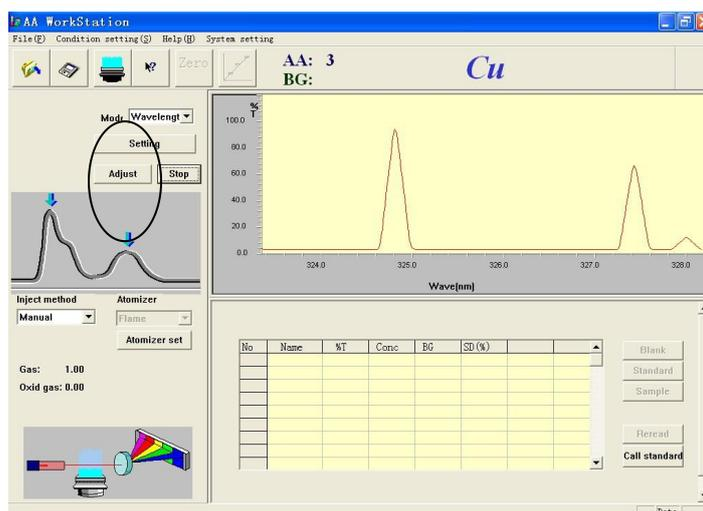
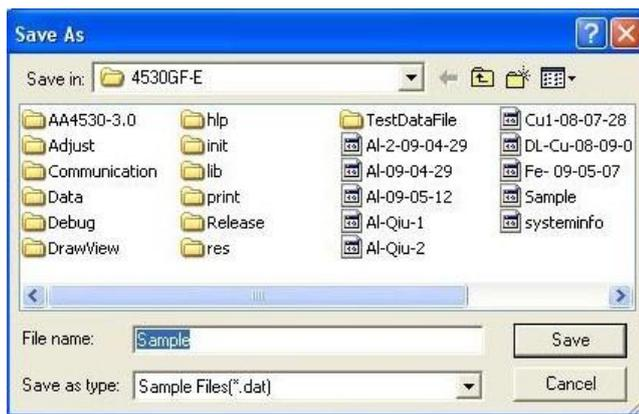
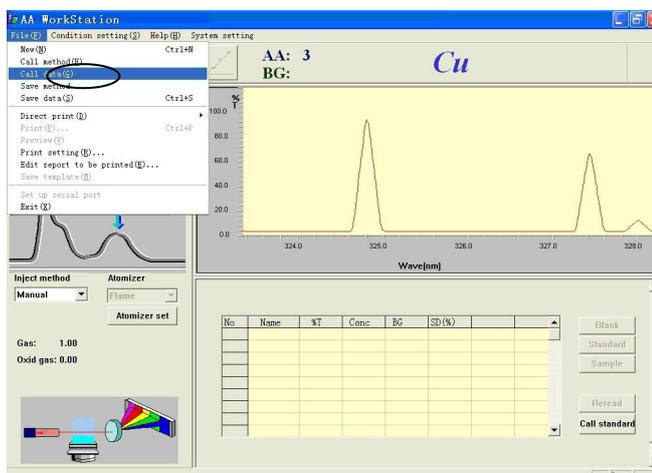

Figure 9-10
Figure 9-11
Figure 9-12
- a) Press the "Open" button on the toolbar, as shown in Figure 9-10, and the "Open" dialog will appear, as shown in Figure 9-11. Enter the file name to be opened in the "File name" field, and press "Open" to obtain desired data.
- b) Select "Call data" in the "File" menu, as shown in Figure 9-12.A dialog will appear as shown in Figure 9-11.